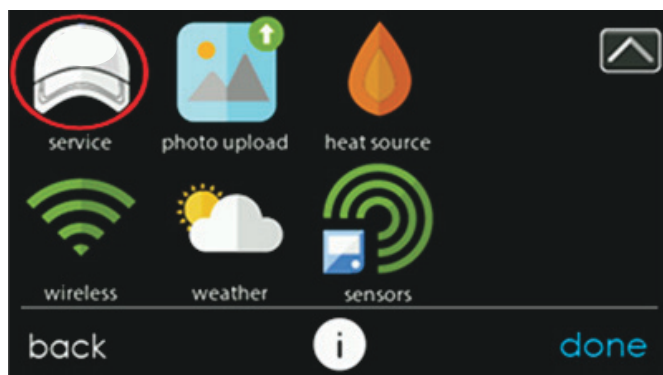
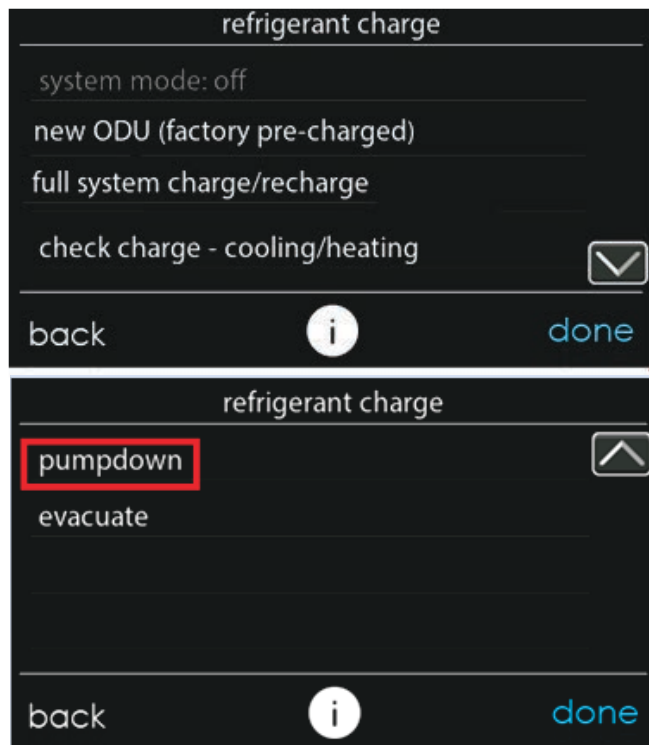

Fig. 13 – Entering Installation and Service Menu
Fig. 23 – Pump Down and Evacuation Selection
5. Navigate to the “Installation and Service menu” by performing a long press on the service icon from the main screen (see Fig. 13). Once in the “Installation and Service” menu, select “Refrigerant Charging” (see Fig. 14).
2. In the “installation and service” menu of the Infinity® System Control (see Fig. 13), go to “refrigerant charging” and then “pump down” (see Fig. 14 and Fig. 23).